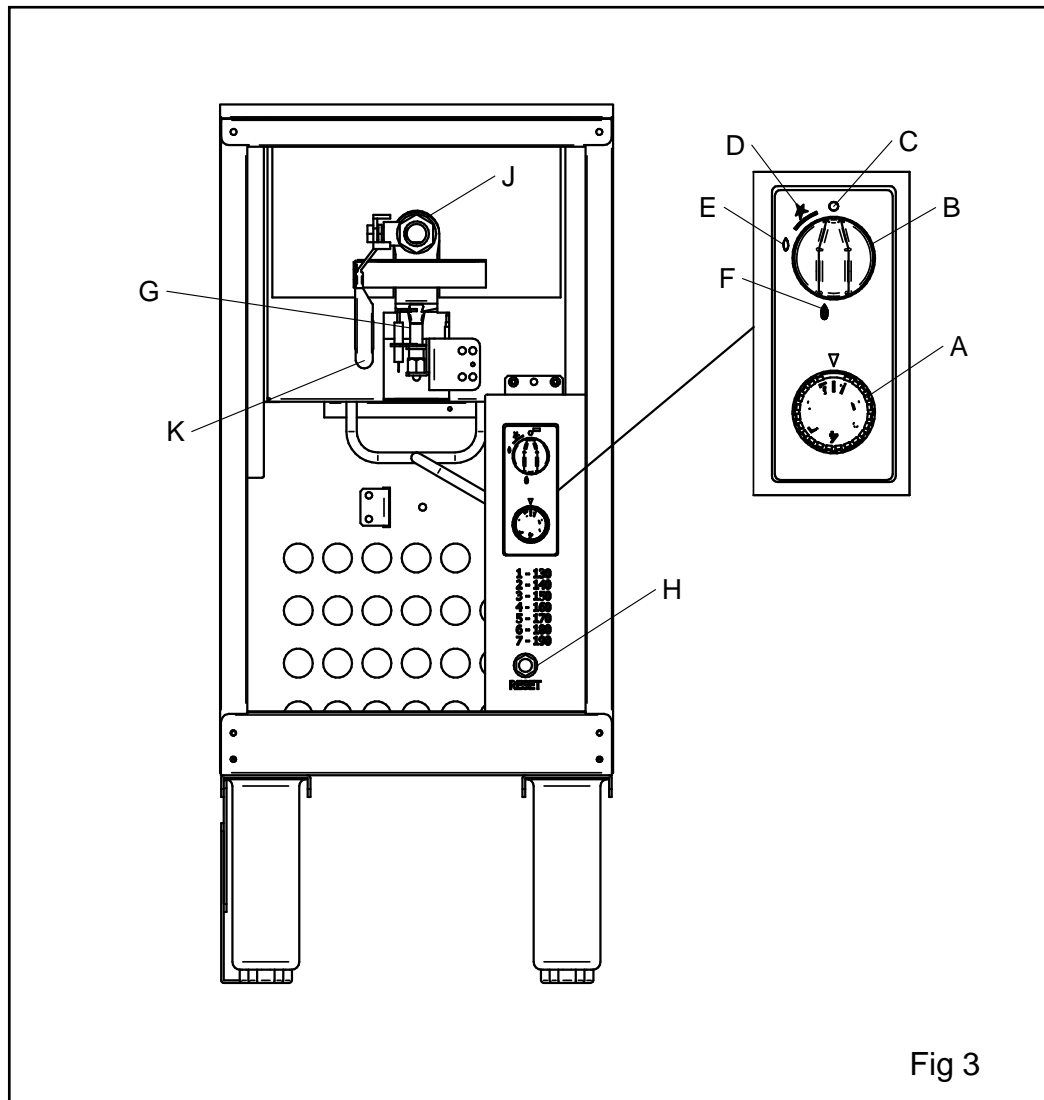
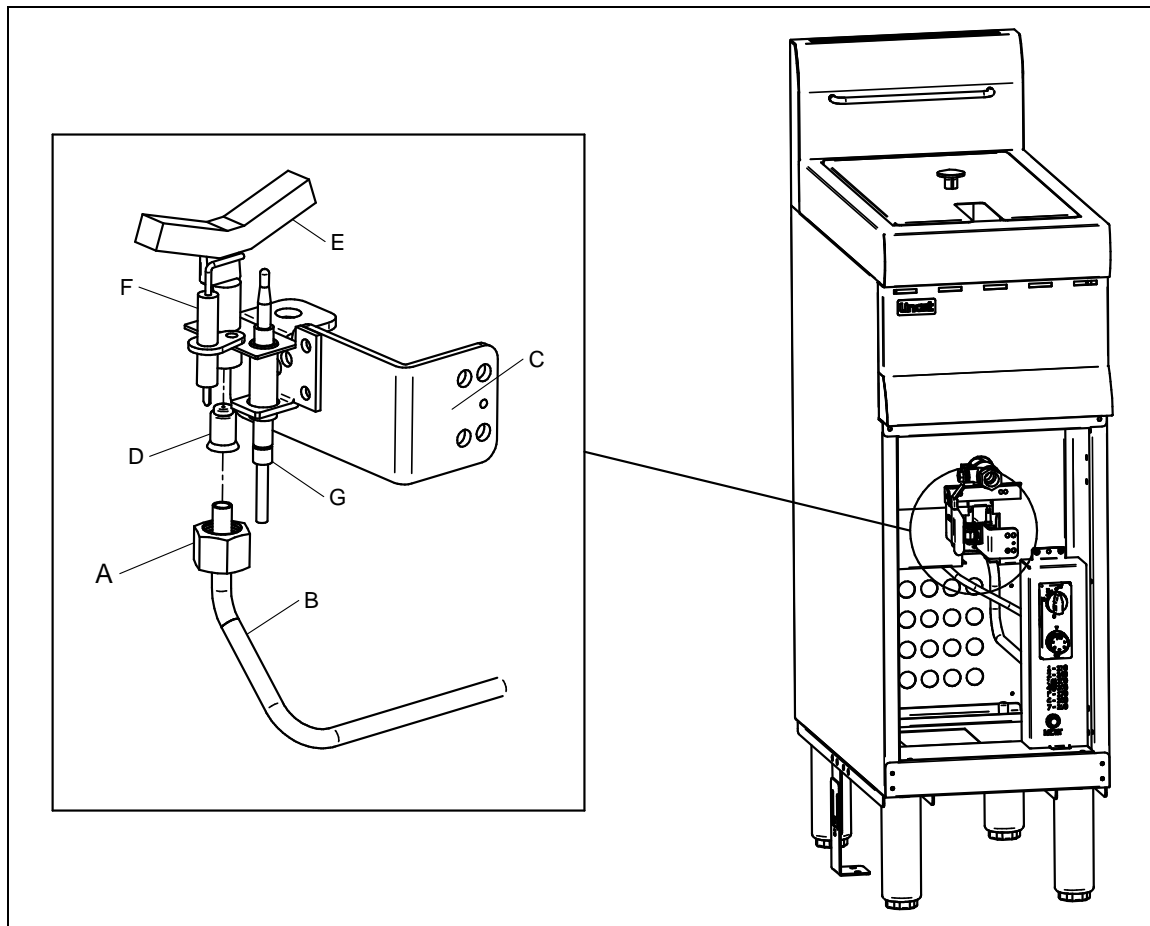

Fig 3
Fig 4
Ensure the control knob (Fig 3 B) is in the 'Off' position (Fig 3 C). Push in and turn anticlockwise to the pilot position (Fig 4 E) during which the piezo igniter will click to ignite the pilot.
To operate the main burner with the pilot lit, turn the control knob to the operating position (Fig 3 F) and turn the thermostat control knob (Fig 3 A) to the required setting.
The appliance may be left on standby by lighting the pilot and leaving the control knob in the pilot position (Fig 3 E). The main burner cannot be operated in this position. To re-ignite the main burner, follow the instructions above.
Should the safety thermostat operate during use, the appliance will shut down. Allow the oil to cool before resetting the thermostat by depressing the red button (Fig 3 H).
When the appliance is not required, turn the control knob (Fig 3 B) to the pilot position (Fig 3 E) which will shut down the main burner but leave the pilot lit ready for when the appliance is next required.
To turn the appliance off fully, turn the control knob (Fig 3 B) to the 'Off' position (Fig 3 C) and shut off at the gas supply.
Remove the blanking nut (Fig 4 J) from the front of the appliance. Fit the drain tube. Place a suitable receptacle under the pipe outlet. Lift the drain valve handle lock (Fig 4 K) to allow operation of the drain valve, then move the drain valve handle forwards and upwards to drain. After draining, close the valve, remove the pipe and refit the blanking nut. Excess oil remaining in the base of the tank can be removed with kitchen paper.
Access to the ignition system components most liable to need replacing is best obtained by removing the complete ignition assembly from the fryer. Referring to Fig 4, this may be achieved by undoing the pilot nut (A) from the pilot pipe (B) at the pilot end. Ensure that the pilot jet (D) is not dropped. Next, release the holding bolts from the bracket (C) and lower the assembly clear of the unit. Replace the specific part as detailed below, and reassemble in the reverse order.